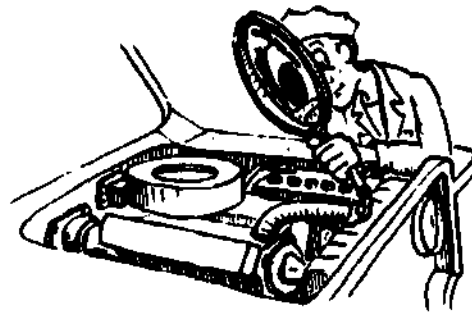

Fig 4-8. Make a thorough inspection.
b. Procedure. The first step in troubleshooting is to find out as much information as possible about the equipment at the time it stopped working correctly. A good way to do this is to ask the last operator or driver of the vehicle to explain how the vehicle was acting. He may be able to tell you certain things that will help you find the trouble. We call these things symptoms. Examples of the symptoms you may learn from the driver are: (1) the engine lost power on steep hills but ran ok on level ground. (2) he smelled fuel every time the vehicle traveled down a hill, or
(3) the engine misfired every time it accelerated or speeded up. The second step is to make an inspection of the equipment that is not working correctly. (This step may be your first step if you cannot find the previous operator to question him.) Make sure that you look over the entire fuel and air intake systems for anything that might seem to be wrong. Look for broken parts, loose or worn parts, and leaks. Also look for anything that indicates that part which may be in trouble or may be causing trouble. This is another method of learning symptoms that may help you locate the trouble (fig 4-8).